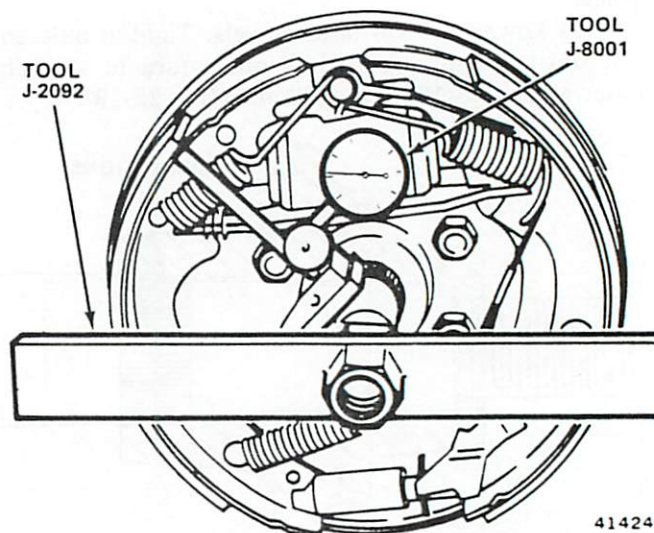

Fig. 2F-23 Measuring Axle Shaft End Play—CJ and Scrambler Models
(1) Strike end of each axle shaft with lead hammer to seat bearing cups against support plate.
(2) Attach Axle Shaft End Play Tool J-2092 to end of left side axle shaft. Mount dial indicator on support plate or tool, and check end play while pushing and pulling on axle shaft (fig. 2F-23).